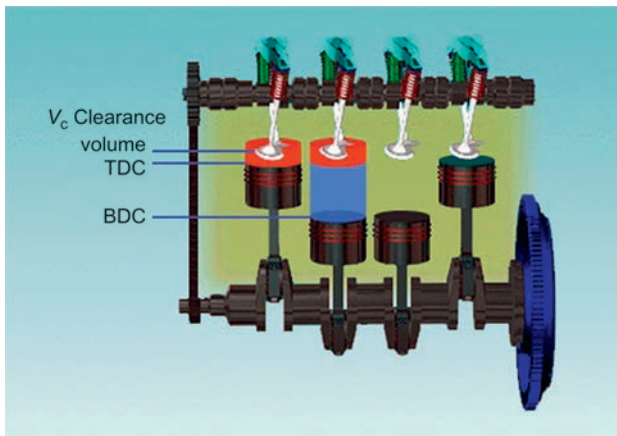

Figure 2.32 Clearance and swept volumes
- **Swept volume** – the volume of a cylinder bore between the TDC and BDC piston positions, excluding the volume above the piston at TDC (Fig. 2.32).
- **Clearance volume** – the volume above the piston at TDC. Note that it is the volume of the combustion chamber itself (Fig. 2.32).